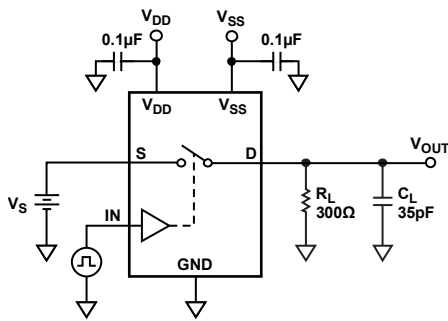

Figure 26. Switching Times
| IDD                    | The positive supply current.   | tON (EN)                      | Delay time between the 50% and 90% points of the digital input and switch on condition. See Figure 26.  |
| ISS                    | The negative supply current.   | tOFF (EN)                     | Delay time between the 50% and 90% points of the digital input and switch off condition. See Figure 26.   |